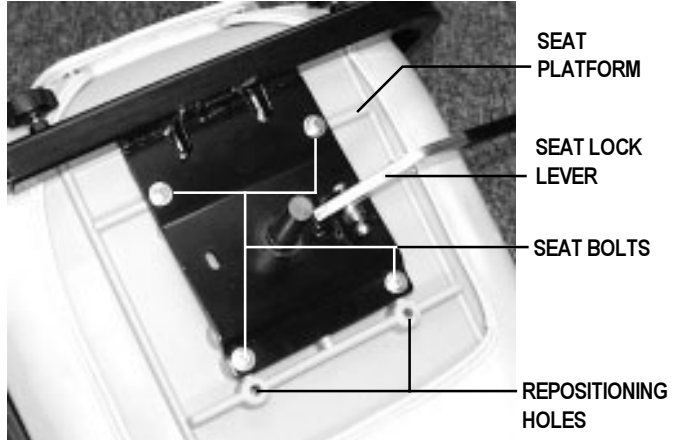

Figure 12. Front-to-Back Seat Adjustment
You can reposition the Rally's seat forward or rearward to one of three settings to adjust the distance between the seat and the tiller. See figure 12.
2. Remove the four bolts that fasten the seat to the seat platform. See figure 12.